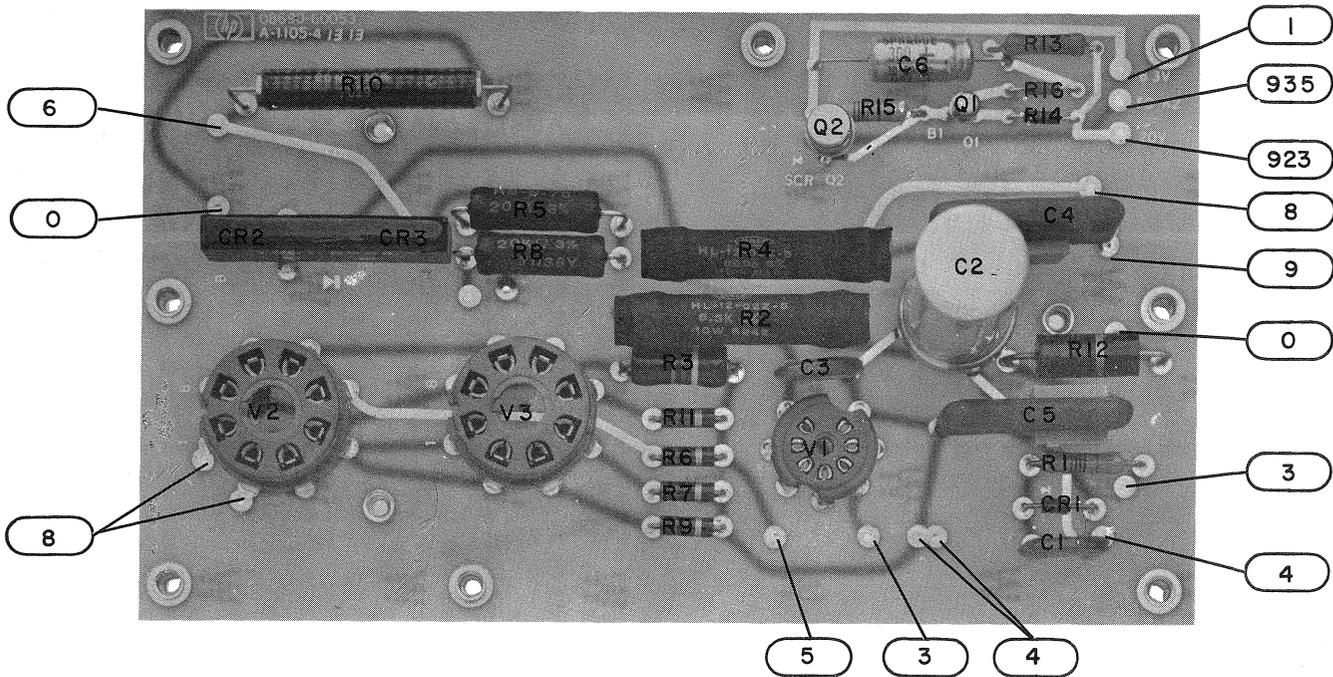

Figure 4. Component Identification, A8 Assembly
4. The A8 Helix Supply Board should be HP Part No. 08690-60053. Using the component identification photo (Figure 4) locate and remove C6, R13, and R16. Replace C6 with a 140 μ f capacitor HP Part No. 0180-2268. Replace R13 with a 562 K ohm resistor HP Part No. 0857-0868. Replace R16 with 909 ohm resistor HP Part NO. 0757-0422.